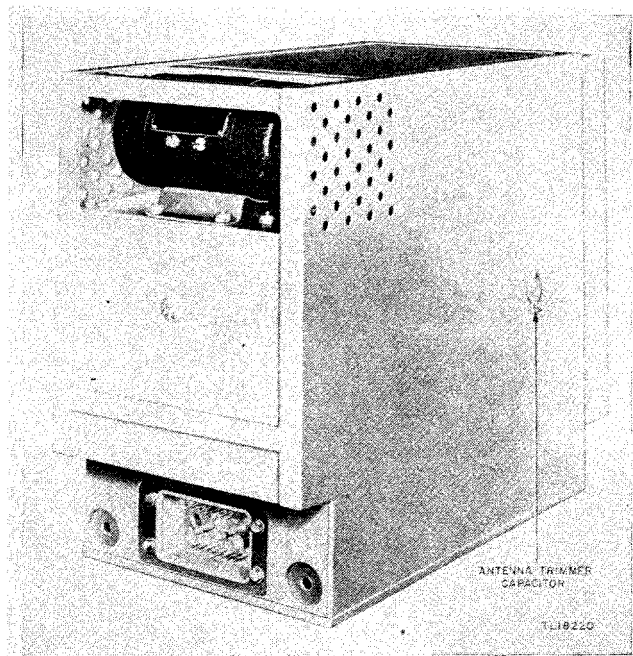

Figure 2. Radio Receiver BC-603-(*)—oblique rear view.
(3) Clean and inspect plug PG1. (See figs. 2 and 11.) Make sure there is a slight play in the plug mounting. Clean the pins carefully with dry-cleaning solvent (SD) using the small camel's-hair brush. Use a small file to remove corrosion. Avoid scraping the bakelite insulation. If the plug is damaged or the pins are bent or broken, replace the plug as directed in section VIII.